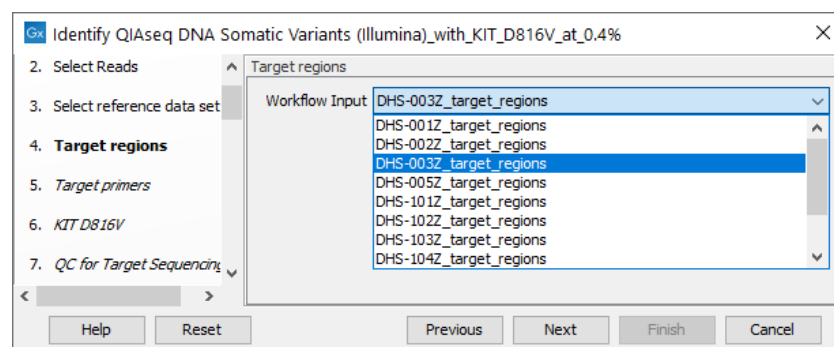

Figure 21: Select the DHS-003Z target regions.
6. In the drop-down list of target regions, select "DHS-003Z_target_regions", as shown in figure 21 and click on **Next**.